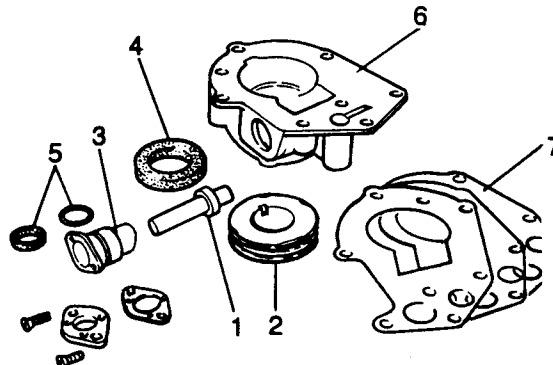

Fig H1.85
- (1) Refer to Fig H1.85. Inspect the teeth of the pinion (1) and worm (2) for damage.
- (2) Check the sleeve (3). This should slide easily over the pinion.
- (3) Use a new oil seal (4) on the output shaft and a new sealing ring and oil seal (5) on the sleeve as well as the plate gasket, if necessary.
- (4) Check that the front surface of the speedometer cover (6) is flat as well as the shims (7), which should not be deformed or damaged.